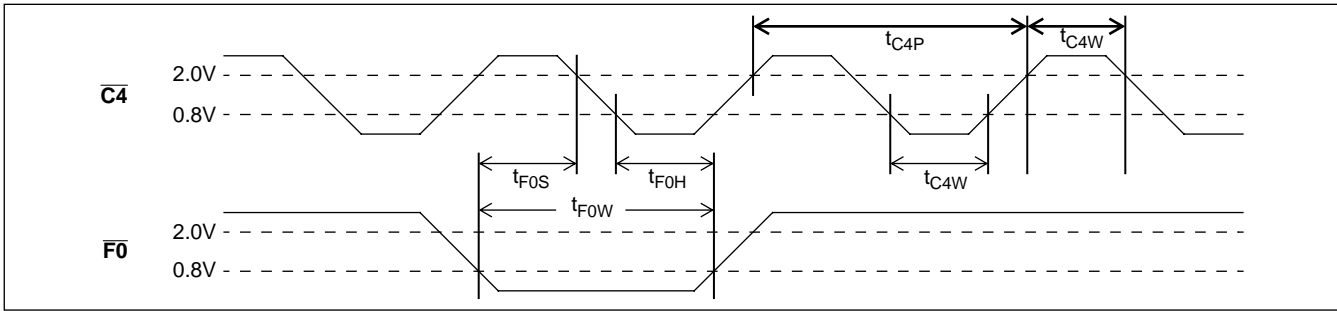

Figure 16 -  $\overline{C4}$  Clock & Frame Pulse Alignment for ST-BUS Streams in DN Mode
① Duty cycle is measured at  $V_{DD}/2$  volts.
**AC Electrical Characteristics† - Clock Timing - DN Mode (Figures 16 & 17)**